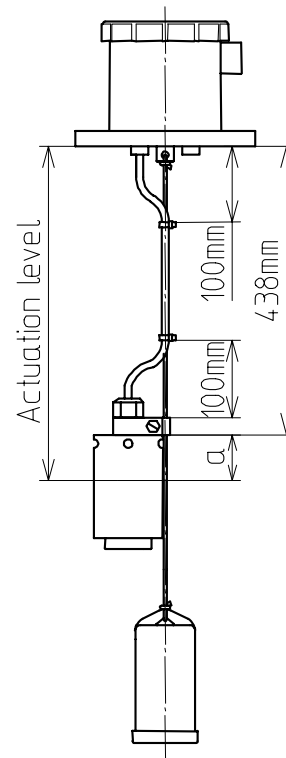

Fig. 8
- (5) The rope clip should be fastened at a location about “a” above an actuation level. See Fig. 8 and Table 1.